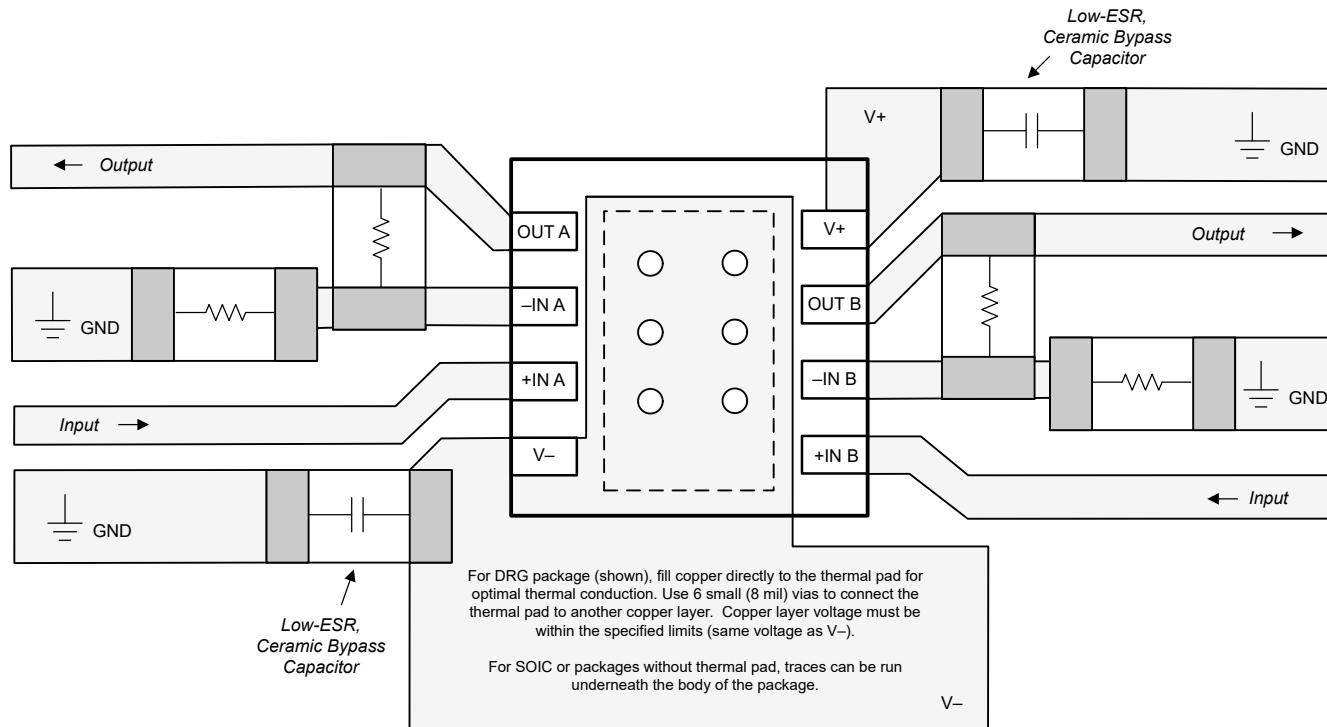

图 8-3. Dual Operational Amplifier Board Layout for Noninverting Configuration
- Place the external components as close to the device as possible. As illustrated in 图 8-3, keeping RF and RG close to the inverting input minimizes parasitic capacitance.